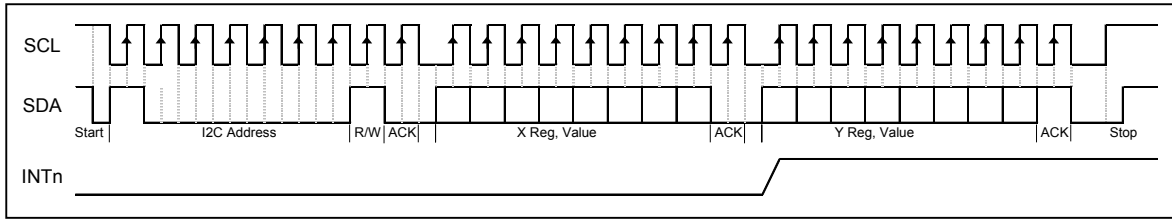

FIG. 2 – Read X & Y Values over I2C Bus
IMPORTANT: In order to keep X & Y values paired together or “in synch.”, X register data should be read in an I2C sequence which reads both the X & Y registers as described in Sec. 3.2.1. and Fig. 2.
The Y register should be read in a single I2C sequence that reads the X Register first immediately followed by the Y register as described in Sec. 3.2.1. and Fig. 2.
**3.2.1 Read X & Y Values** – When INTn goes low there are new X & Y values available. To read the X & Y values the external I2C Master should perform a read sequence of 2 bytes without providing a register address (Joystick always sends X register value followed by Y register value for any 2 byte read without a register address). INTn will go high (inactive) at the beginning of the read of the Y value (see Fig. 2).
**Important Note:** If a new X & Y value is available before the previous values are read the new values will over-write the old (with the loss of the oldest values). However, in order to keep the X & Y values paired together or “in sync”, it is important that the user read the X & Y values in the a single I2C sequence as shown in Fig. 2. This is also the fastest and most efficient use of the I2C bus.